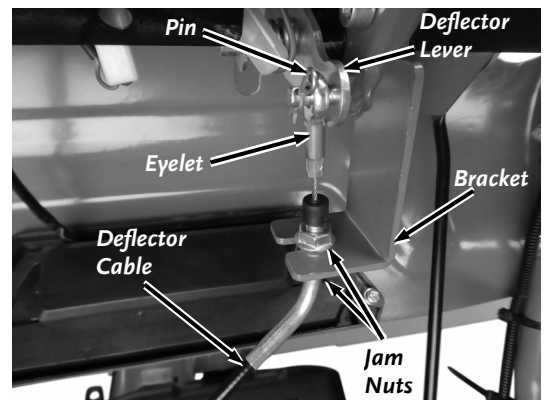

Figure 17
16. Install the Eyelet end of the Deflector Cable onto the Deflector Lever and secure with the Pin (**Figure 17**).